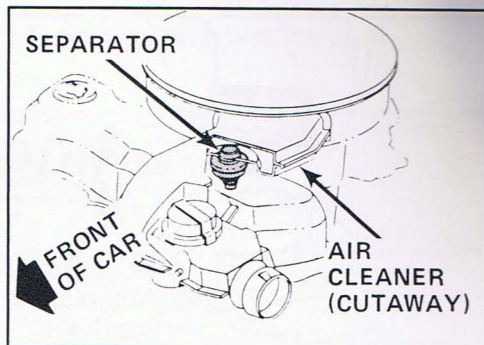

Figure 2 - Top of engine
4. The crankcase separator is located between the air cleaner and valve cover. See Figure 2. With both hands, pull air cleaner up and away from the fuel injector unit and the separator. Do not disconnect any rubber tubing. Move the air cleaner off to the side.